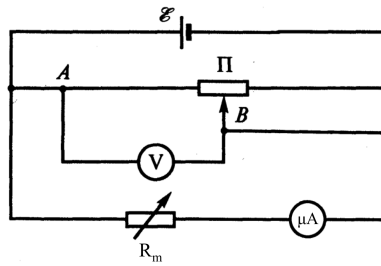

Figure 5:
The diagram of the third setup to test the accuracy of the multiplier is presented on Fig. 5. The magnitude of the voltage at the test device (μA) is set by a potentiometer.
Draw a circuit diagram (Fig. 5). Write down and derive formula for calculating R_m , n_{calc} , n_{exp} , δn and ε_n , describing all the symbols in these formulae. Prepare the Table 3 for recording measurement results.
- b. Assemble the experimental circuit (in Figure 5). Connect the test microammeter in series to the resistance box which plays a role of multiplier. Connect this circuit to one of the terminals of the variable resistor and its wiper. Connect the multimeter in parallel with these elements.